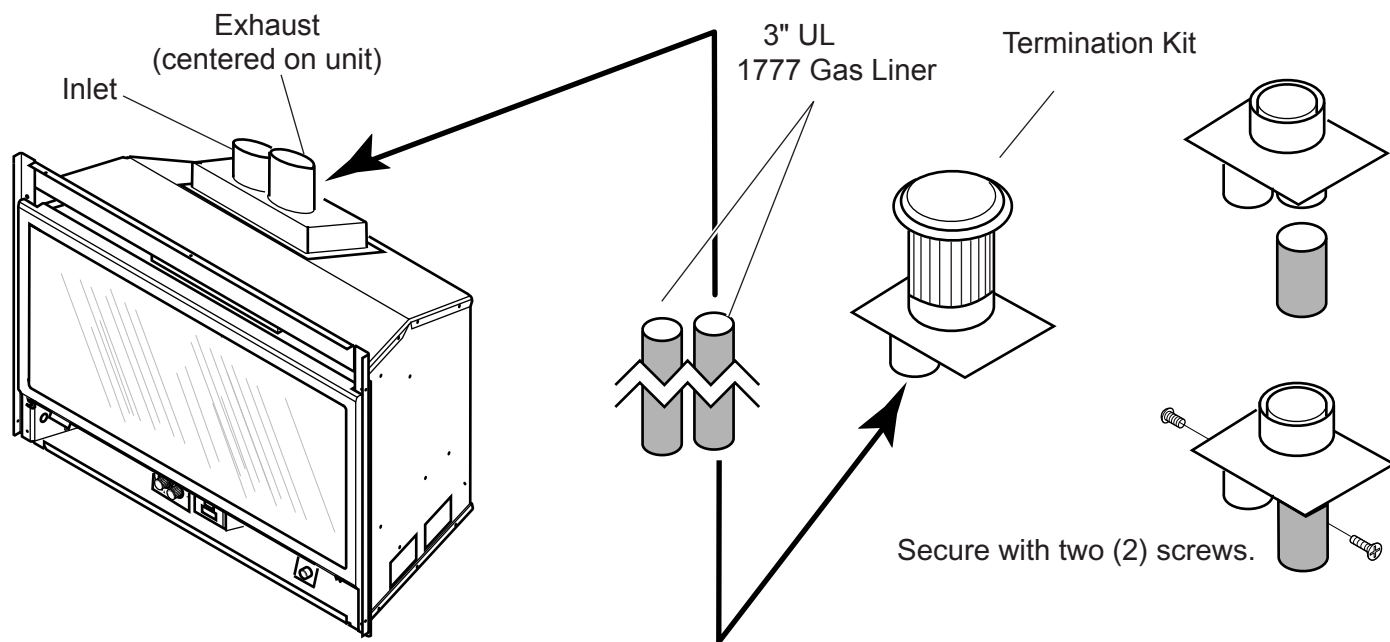

Figure 6 - Connecting Exhaust Pipe to Heater
- Make sure the exhaust pipe on heater connects to exhaust portion of cap. Attach flex liners. See *Figure 6*.